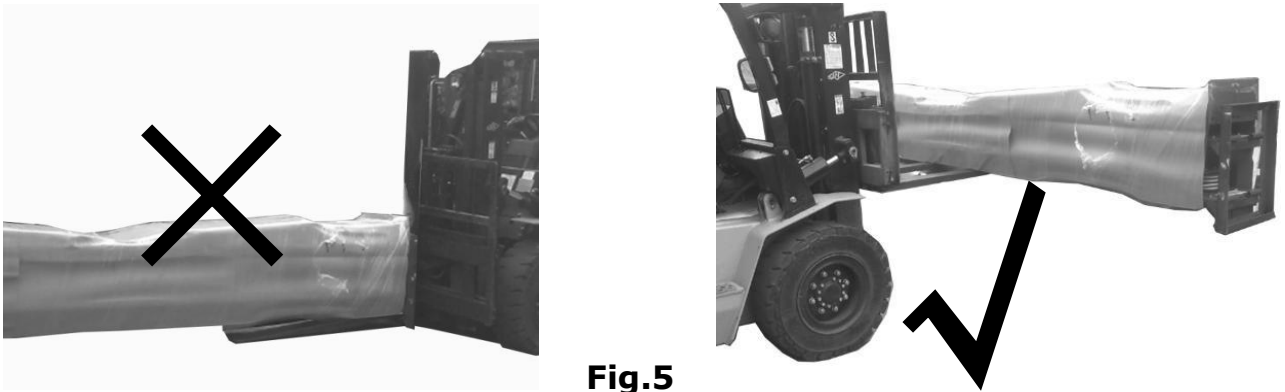

Fig.5
1. The equipment should be unloaded and transferred by forklift. (See Fig. 5).